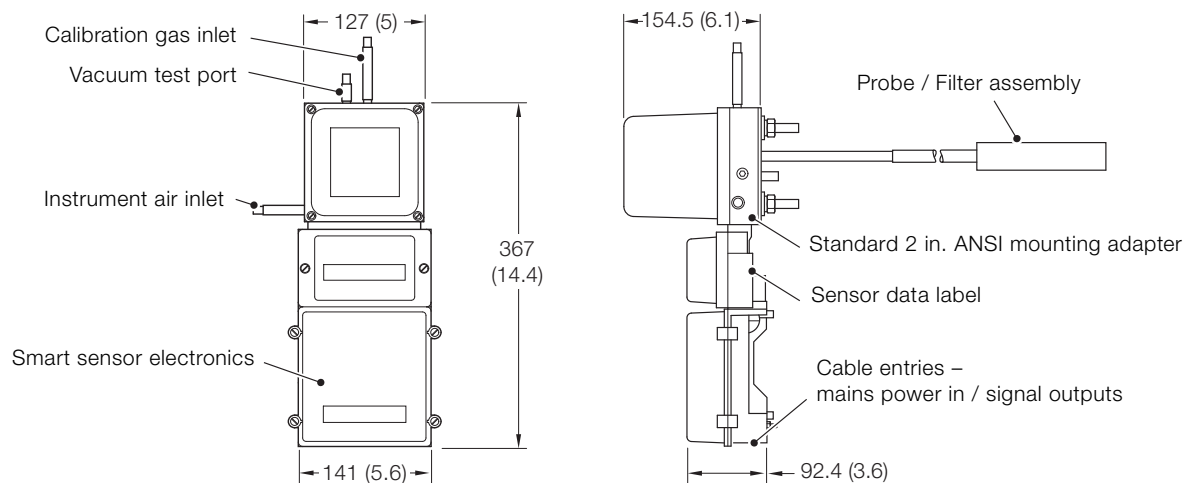

Fig. 3 Endura AZ40 sensor assembly – main components / dimensions
- sensor assembly (housing a zirconia-based oxygen sensor, catalytic COe sensor and an air powered aspirator), see Fig. 3
- smart sensor electronics (part of the sensor assembly), see Fig. 3
- probe / filter assembly, see Fig. 3